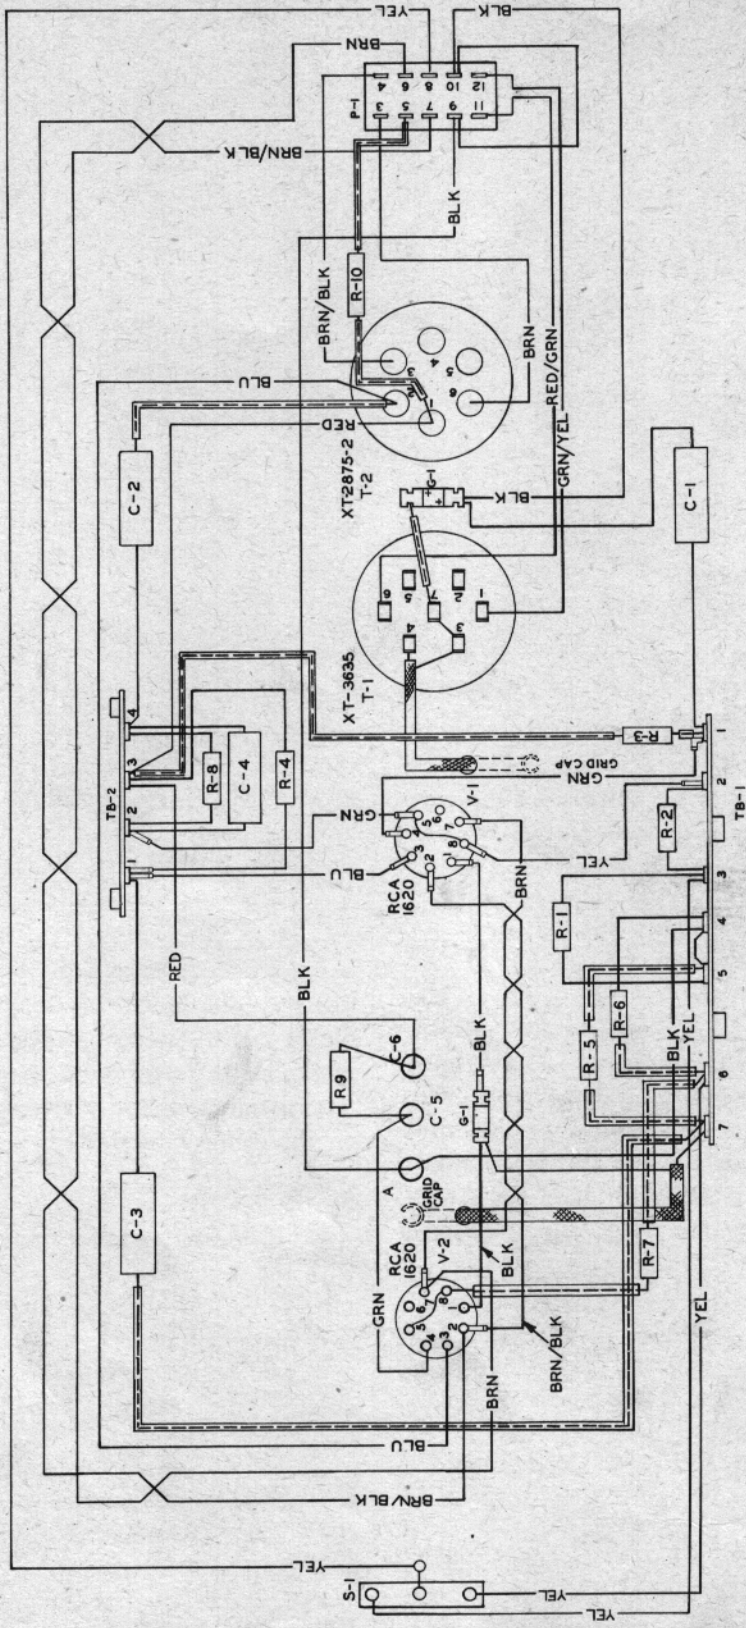

Figure 10—Wiring diagram for Type BA-1A Preamplifier.
11. The BA-1A Preamplifier comes wired for operation from a 250-ohm source. If it is desired to operate from a 30-ohm source, the wiring to the taps on the primary winding of the input transformer must be changed. To do this, remove the wire connected to terminal number 6 and connect it to terminal number 5. Remove the wire connected to terminal number 1 and connect it to terminal number 2. Refer to T-1, figure 10.
transformer to the ground lug (ground lug is welded to the amplifier chassis). Refer to figure 2 and figure 10.
c. Install a jumper wire connecting terminal number 1 of the input transformer to the ground lug. Refer to figure 2 and figure 10.
output transformer. To make this alteration, change two wires as follows: Disconnect the wire on terminal number 6 and connect this wire to terminal number 5; Disconnect the wire on terminal number 3 and connect this wire to terminal number 4. Refer to T-2, figure 10.